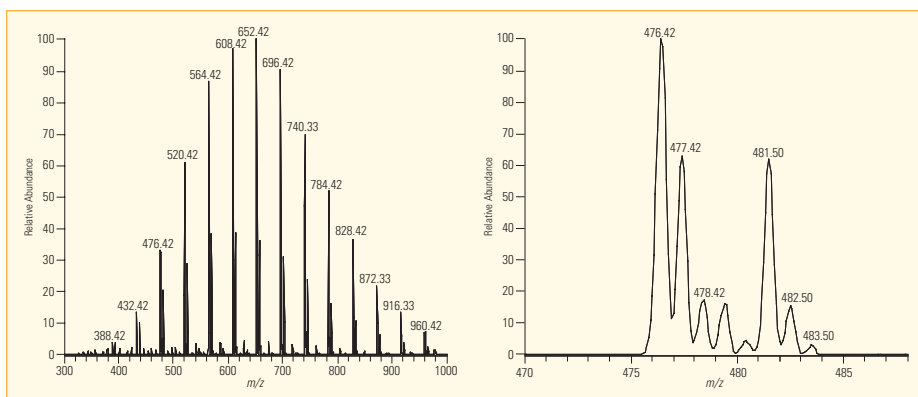
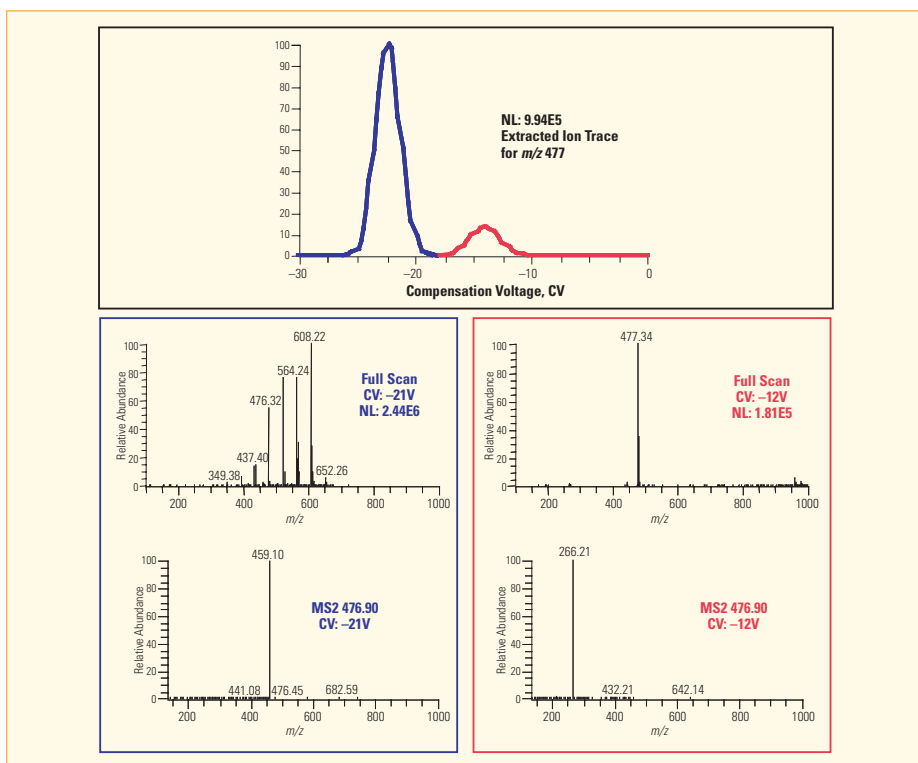

Figure 1
Figure 2
A full scan mass spectrum obtained using a standard Ion MAX™ source (no FAIMS separation) is shown on the left hand side of Figure 1. Without FAIMS separation, evidence of PEGs is found over the entire mass range of interest, including at the nominal mass of the target drug, loperamide. The mass range between 470 and 485 is expanded on the right hand side of Figure 1, which clearly shows that the 13C isotope of the PEG at  $m/z$  476.42 coincides with the mono-isotopic peak for loperamide at  $m/z$  477.42. The typical PEG spectrum is characterized by a series of  $m/z$  species which are separated by 44 mass units across the mass range from 400 to 1000 in Figure 1. The presence of the PEG dosing vehicle in the sample makes isolation, clean fragmentation, and hence identification of the target drug difficult, particularly when the target analyte is at low concentrations.
Contrast the results in Figure 1 with FAIMS results shown in Figure 2 where the compensation voltage (CV) is scanned, and the PEG and loperamide are clearly separated. In the top panel of Figure 2 is an extracted ion trace for a 1.5 amu window centered at the nominal mass of singly charged, protonated loperamide ( $m/z$  477). The presence of two peaks in the trace indicates several possibilities, including the existence of two conformations of the same molecule or, as in this case, the presence of two molecules of the same nominal mass but with different structures.
In the middle left panel of Figure 2 is the full scan mass spectrum obtained at a CV centered on the blue peak, -21V; in the middle right panel of Figure 2 is the full mass spectrum obtained at a CV centered on the red peak, -12V. The full scan mass spectrum obtained at CV = -21V contains multiple contributions from the PEG dosing vehicle including the component at  $m/z$  476.42; the full scan mass spectrum obtained at CV = -12V contains a single component, loperamide, at  $m/z$  477.34. The full scan mass spectral signal-to-noise has been improved (c.f. Figure 1) by greater than an order of magnitude. Verification of the identity of each component is achieved by MS/MS analysis, the results of which are shown for the PEG in the bottom left panel of Figure 2 and for loperamide in the bottom right panel of Figure 2.